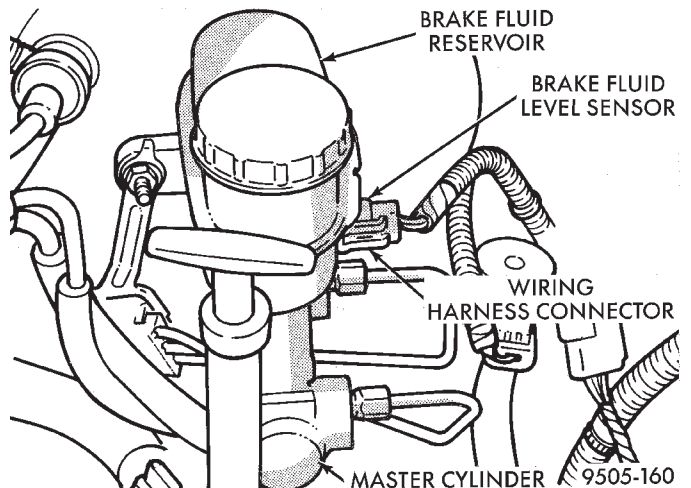

Fig. 81 Master Cylinder Fluid Level Sensor
- (1) Remove wiring harness connector from brake fluid level sensor in master cylinder brake fluid reservoir (Fig. 81).
- (5) Install the connector from the vehicle wiring harness on the fluid level sensor in the master cylinder fluid reservoir (Fig. 81)